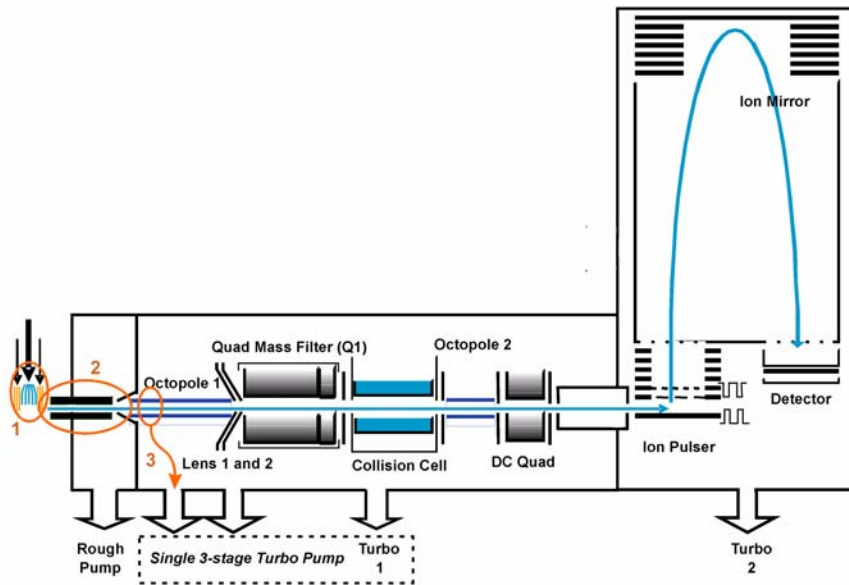

Figure 9 Schematic of Agilent 6530 Q-TOF LC/MS with major improvements circled
Figure 9 shows the complete Agilent 6530 Q-TOF schematic, with major improvements identified.
Ions are generated using an electrospray ion source where the analyte is simultaneously ionized and desolvated from the liquid matrix. The first of three (3) innovative Agilent enhancements is found in the application of Agilent Jet Stream Technology (denoted as 1 in Figure 9) which improves sensitivity via thermal gradient focusing and enhanced desolvation. This technology is described in detail below (“Agilent Jet Stream Thermal Gradient Technology” on page 36).
The desolvated ions then enter the mass spectrometer via an innovative resistive and highly inert capillary transfer tube (denoted as 2 in Figure 9) that improves ion transmission and allows virtually instantaneous polarity switching.
Further increase in ion transmission is obtained by improvement of the pumping speed in vacuum stage 2, resulting in better ion capture by the first octopole (denoted as 3 in Figure 9). The ions next pass through the optics and into the quadrupole analyzer. The quadrupole analyzer consists of four parallel hyperbolic rods through which selected ions based on their mass to charge ratio are filtered.